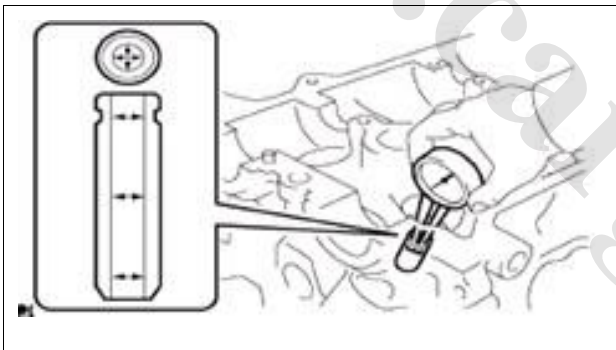

Figure 1-59-29
- a) Use an inner diameter dial indicator to check the inner diameter of the valve guide. (See Figure 1-59-29)